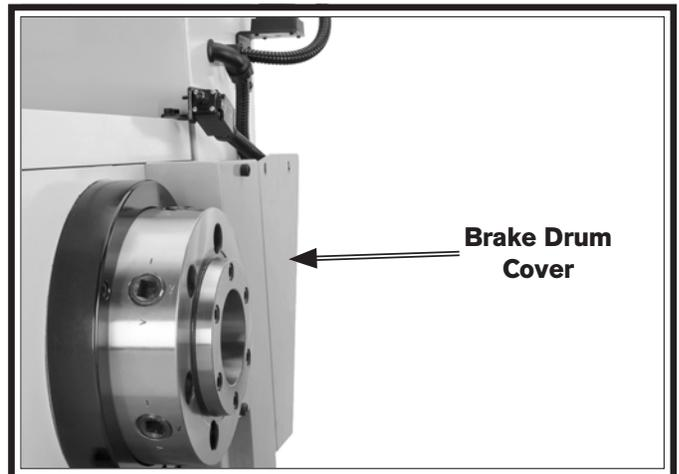

Figure 128. Brake drum cover.
5. If installed, remove the chuck from the spindle, then remove the brake drum cover (see **Figure 128**).